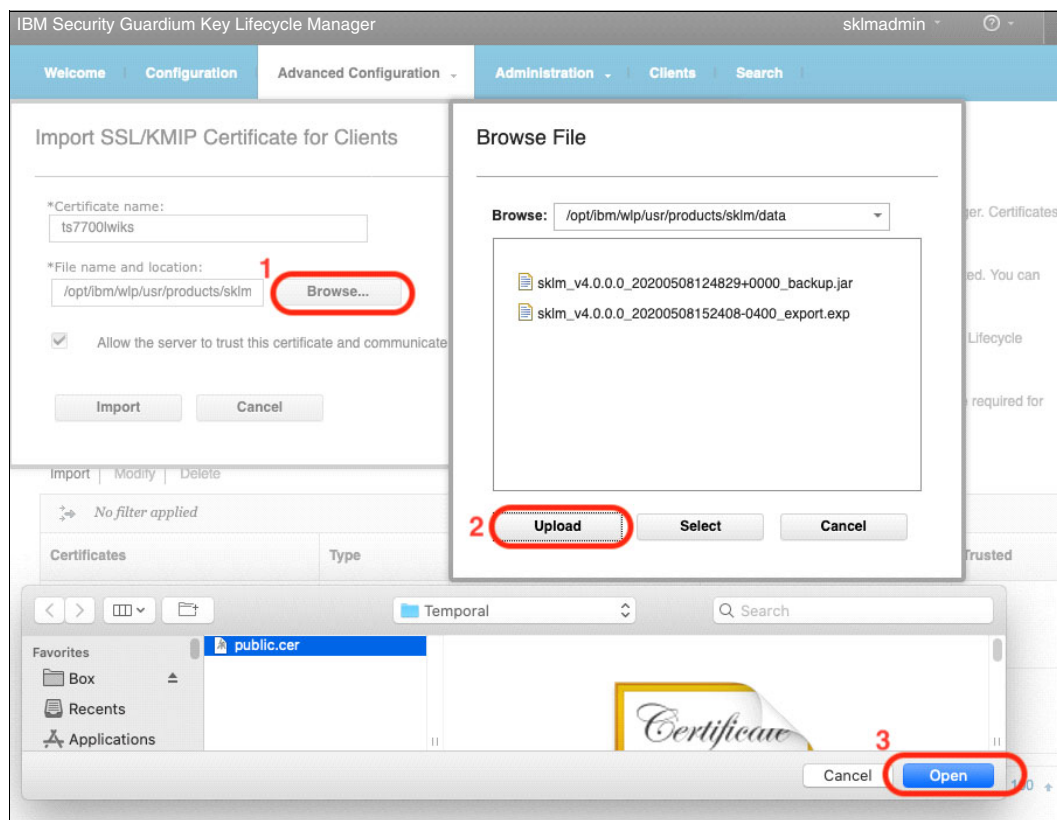

Figure J-13 Uploading TS7700 into the IBM Security Guardium Key Lifecycle Manager
2. The Import SSL/KMIP Certificate for Clients opens (see Figure J-13 on page 1043). Complete the following steps: